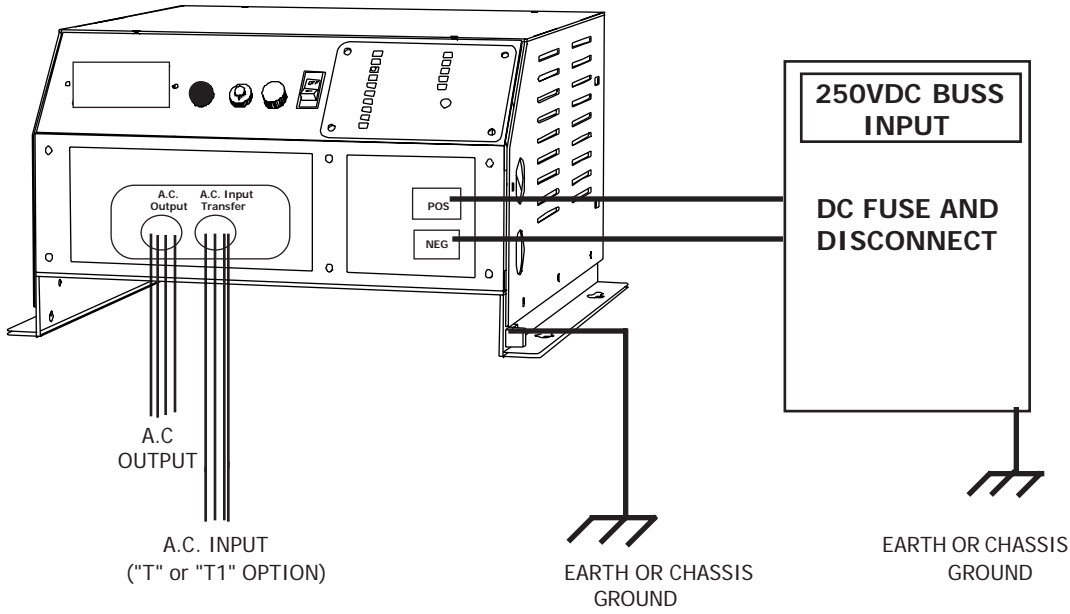

FIG. 1 INSTALLATION WIRING
3.04 Chassis Bonding Lug - FIG. 1
3.05 D.C. Input Wiring - FIG. 1